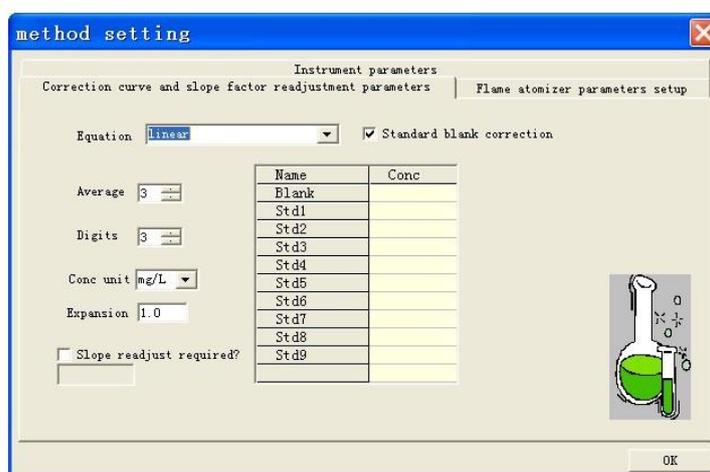

Figure 5-36
- Press "Settings" to enter the "Correction curve and slope factor readjustment parameters" screen, as shown in Figure 5-36.